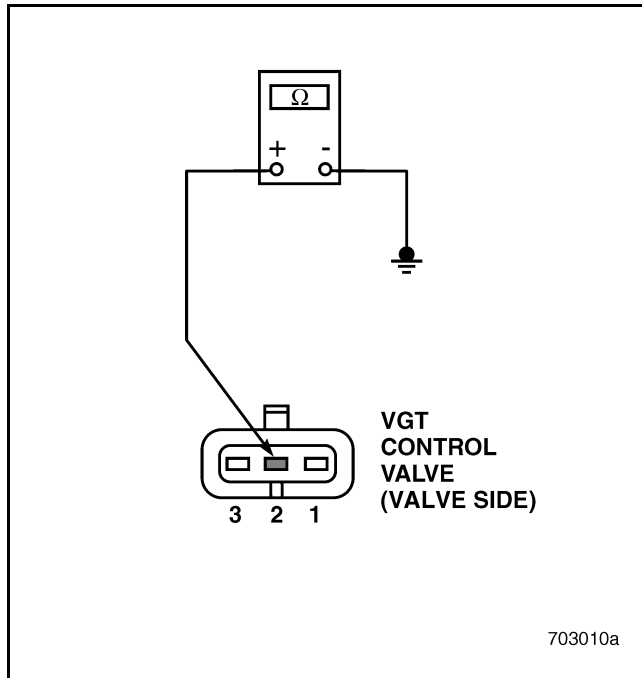

Figure 741
3. Check for continuity between pin 2 of the VTG Control valve and a good ground (see Figure 741).